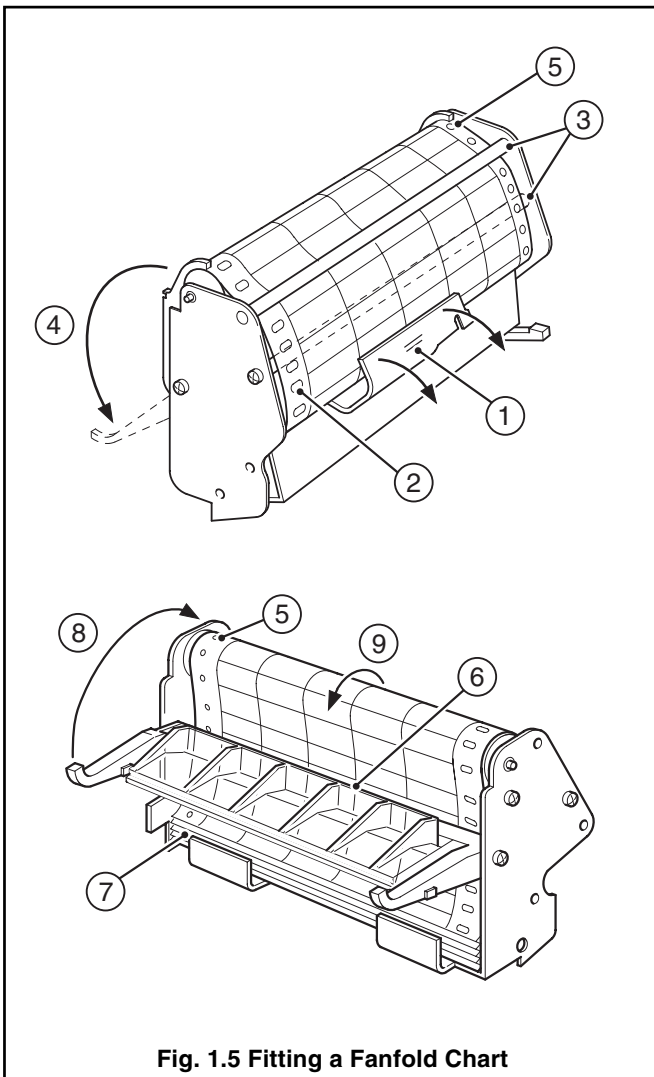

Fig. 1.5 Fitting a Fanfold Chart
1.5.2 Fitting a Fanfold Chart – Fig. 1.5
Remove the chart unit and the used chart from the tray – see Section 1.5.1. Referring to Fig. 1.5: